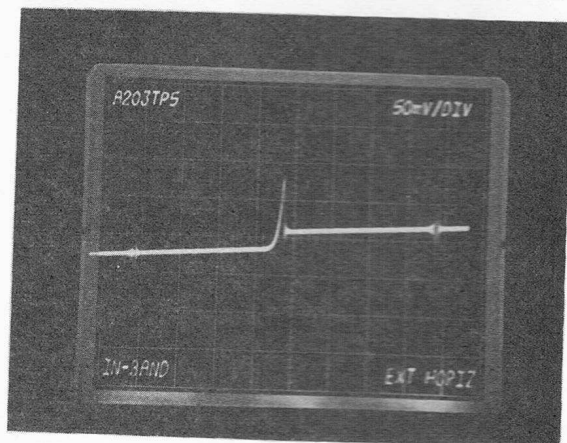

FIGURE 6-2
(4) Adjust A203R21 so the switching spike is coincident with the 250 MHz marker as shown in Figure 6-2.
(5) Reconnect cable to A204J2.